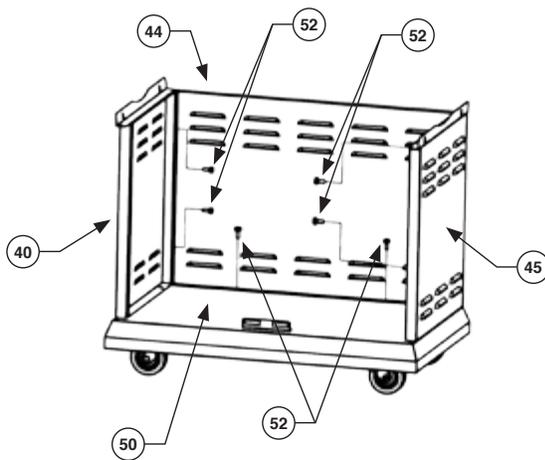

FIG 3
3. Secure Back Plate (44) on the Platform (50) with $\frac{1}{4}$ -20* $\frac{1}{2}$ Bolt (52) and link with Left Plate (40) and Right Plate (45). As shown in FIG 3.